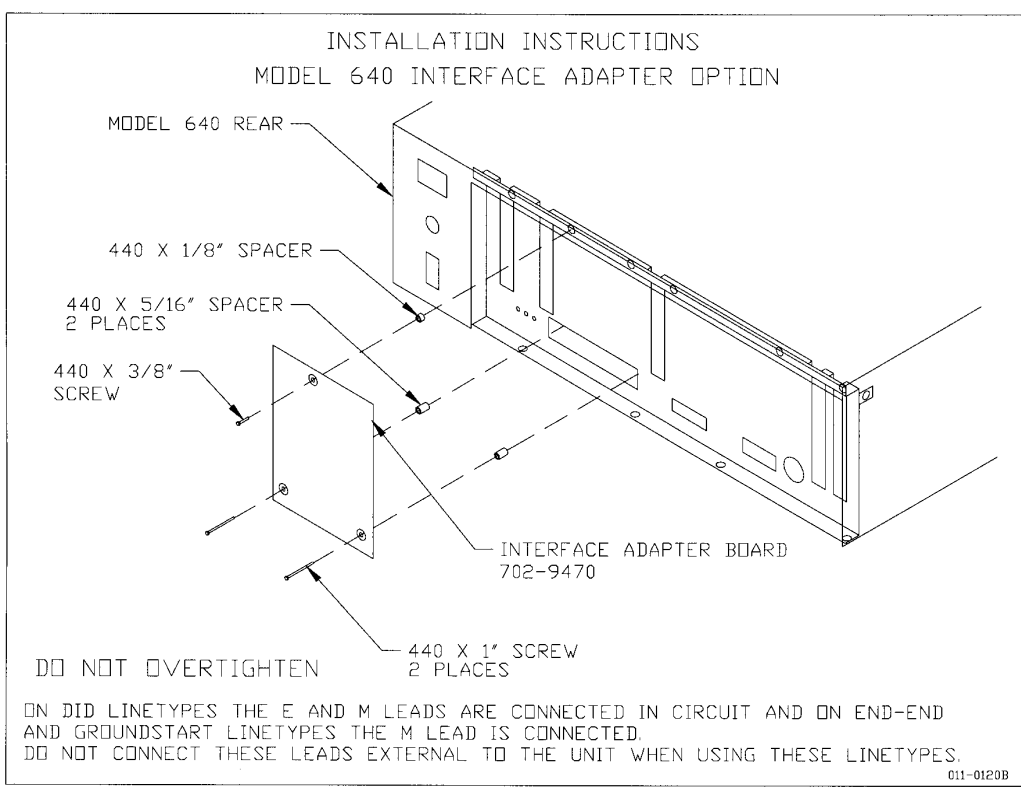

Figure 19. Terminal Block Adapter Installation
- ❑ 2. Loosely attach two 440 × 5/16-in spacers to the bottom of the terminal block adapter with two 440 × 1-in screws as shown in Figure 19.